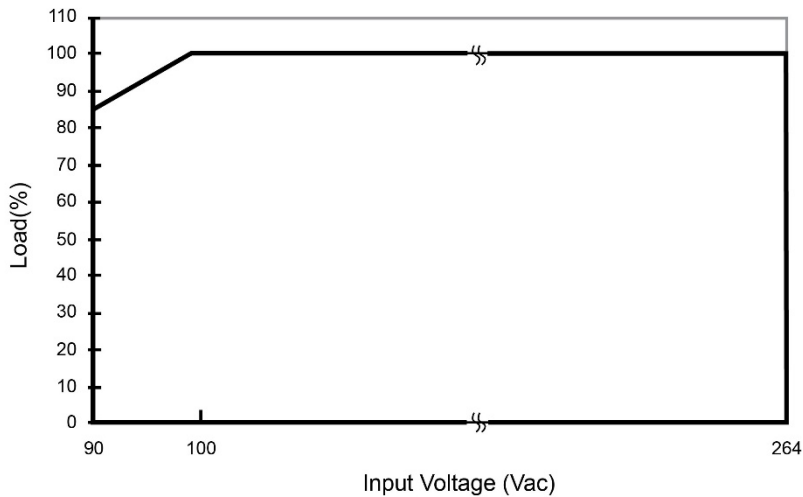

**Fig. 1 De-rating for Horizontal Mounting Orientation**
1. Power supply components may degrade, or be damaged, when the power supply is continuously used outside the shaded region, refer to the graph shown in Fig. 1. & Fig. 2.